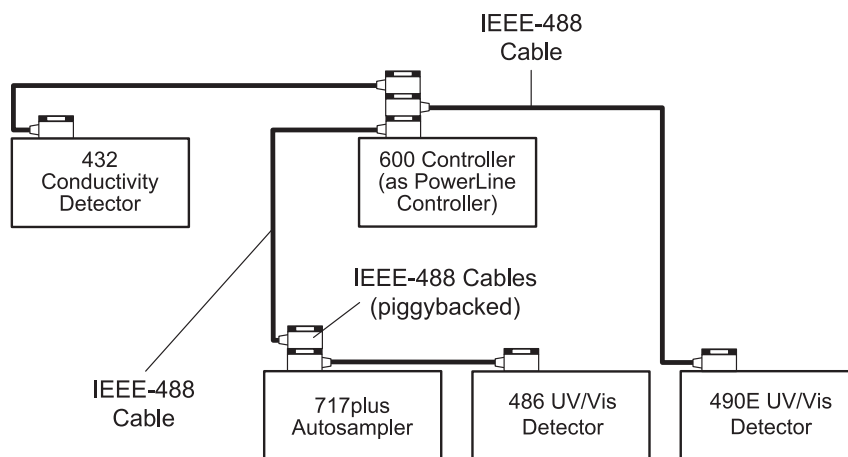

Figure 3-5 PowerLine Controller IEEE-488 Connections
1. Connect the single-receptacle end of the IEEE-488 cable (supplied with either the 600E system or the data system) to the IEEE-488 connector on the 600 controller rear panel (Figure 3-5).
3. If using a multicomponent configuration (as illustrated in Figure 3-5), connect a second IEEE-488 cable to the “stackable” connector on the PowerLine instrument. Connect the other end of the cable to the IEEE-488 port on the next PowerLine component.
In the PowerLine mode, the 600 PowerLine Controller supports operation with a Waters 432 conductivity detector through an interface box. You must use the interface box to communicate with the 432 detector over the IEEE-488 interface. When operating with the Waters 432 conductivity detector, the 600 PowerLine Controller supports operation directly over the IEEE-488 interface (as illustrated in Figure 3-5).